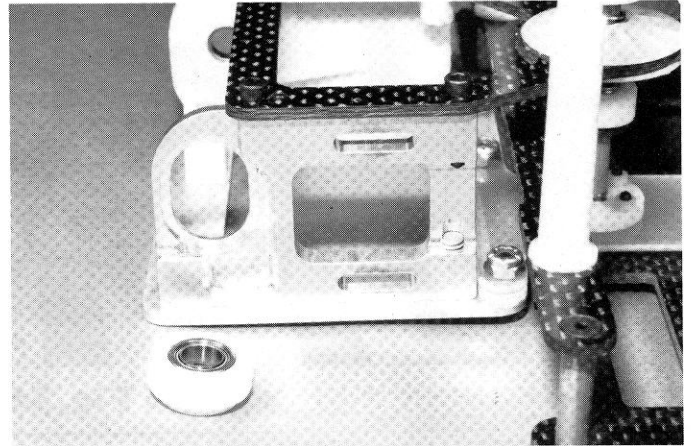

**Fig. 41**
**Figs. 41 & 41a**— Put a set screw in the nylon collar and slip it onto the #8312 rear body and then install the two body mounts to the chassis brace with the two 4/40 screws.